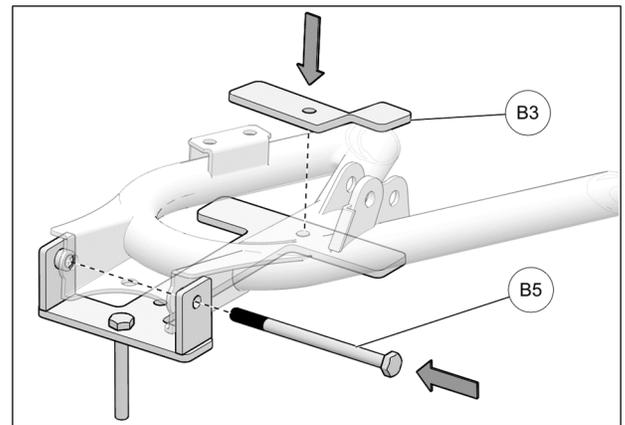

Fig. 8
7. Insert the new M10x150mm bolt (**B5**) through the anchor bracket, lower suspension arm and wheel hub. Position the anchor bracket cover (**B3**) over the suspension arm. See Fig. 8